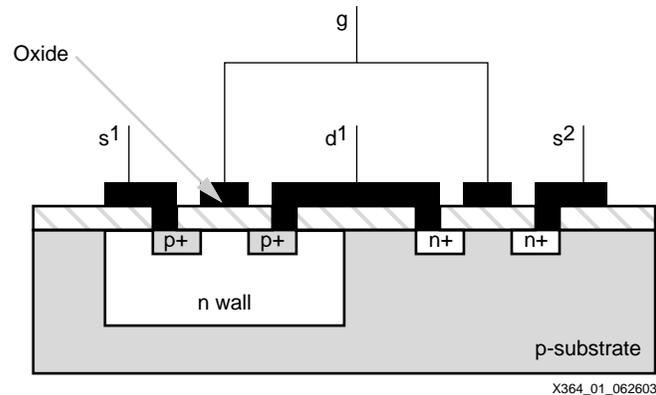

Figure 1: Basic CMOS Transistor
**Figure 1** is an example of a typical CMOS gate cross section showing the basic components.